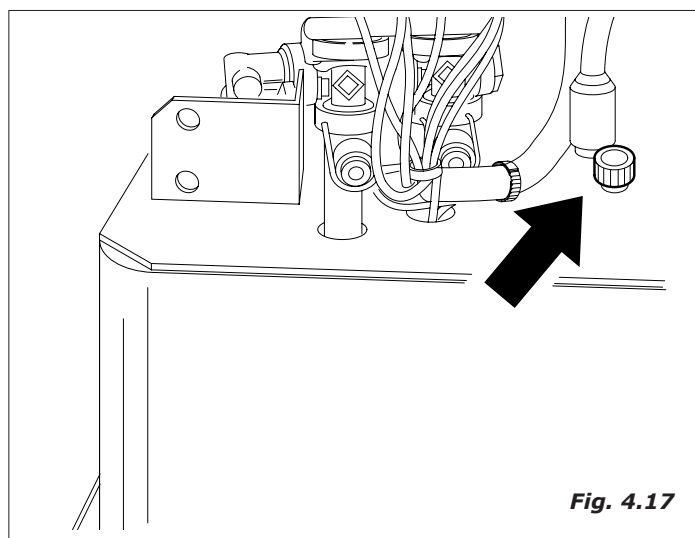

Fig. 4.17
- Remove the cap positioned on the top plate of the cooling unit and insert the instant boiler drain hose which is positioned along the liquid waste chute.(Fig.4.17).